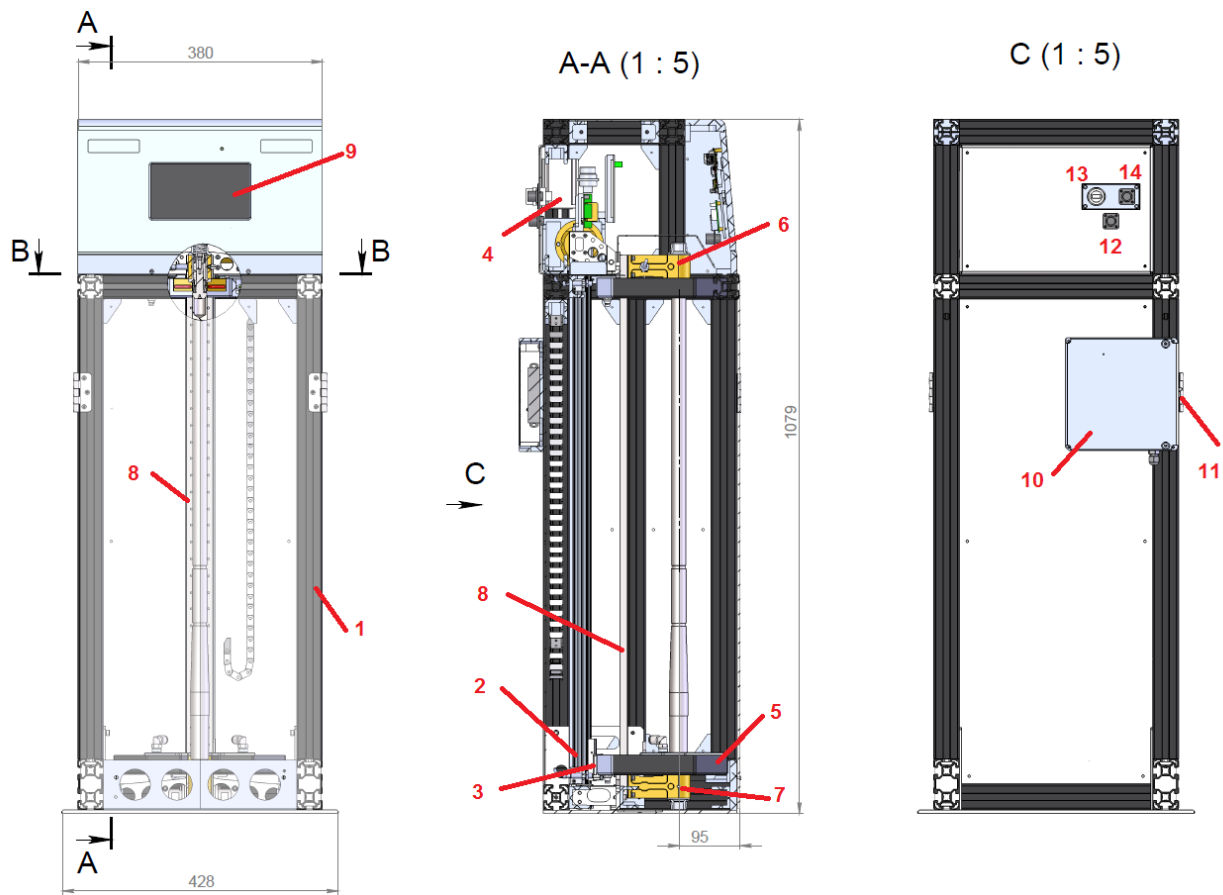
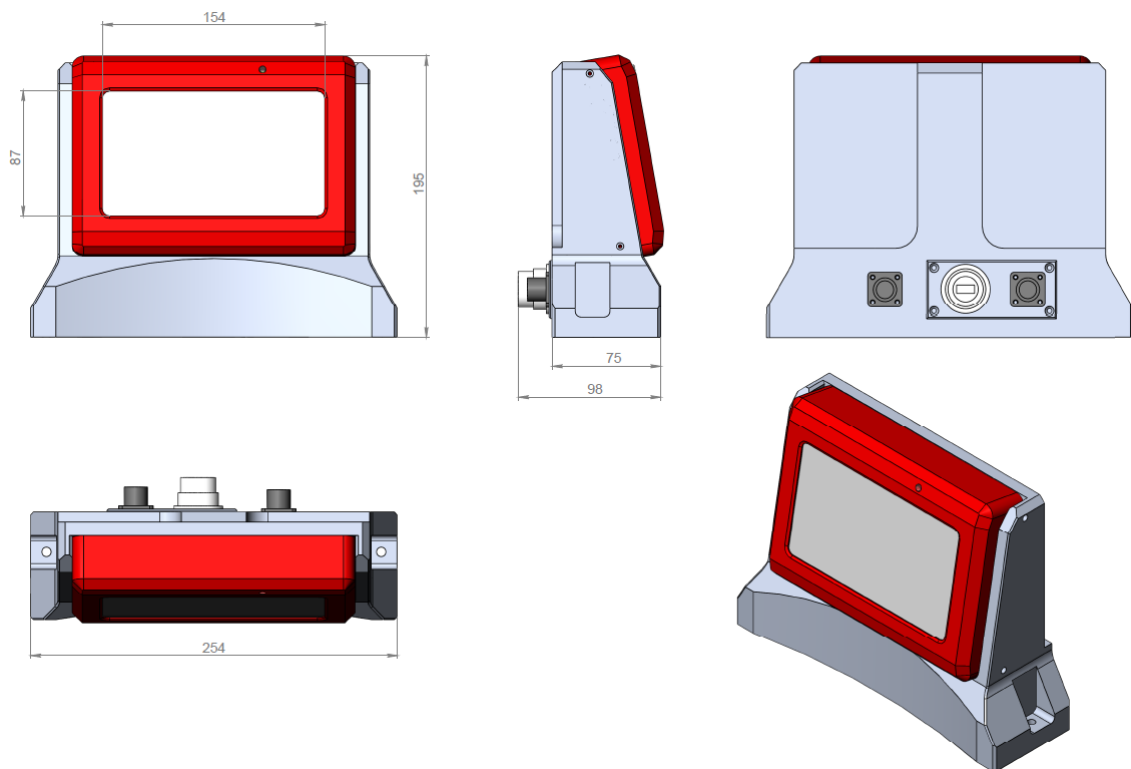

Figure 3
Figure 4
The structure of the machine (without protective doors) is illustrated in Figure 3.
The machine contains a mini-computer (9) with a graphic touch screen. The mini-computer has the special software designed to control the machine and to display results. The mini-computer can be built into the machine (as shown in Figure 3), or it can be installed on the special stand (see Figure 4).